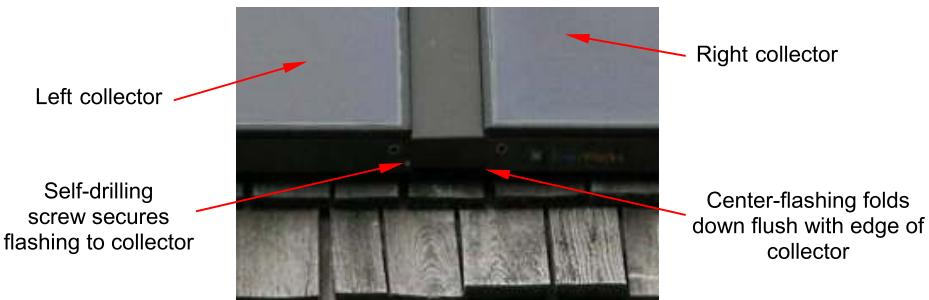

Fig. 7.2.2 – Center-flashing folds down flush with edge of collector (2, 3 and 4-collector Appliances).
2. Fold ends of center-flashing sections down such that they are flush with collector side-wall edge. Secure center-flashing sections to upper and lower side-walls with self-drilling screws. If leaf-guard is to be installed, do not fold down upper center-flashing length until leaf-guard is in place (Fig. 7.2.2).